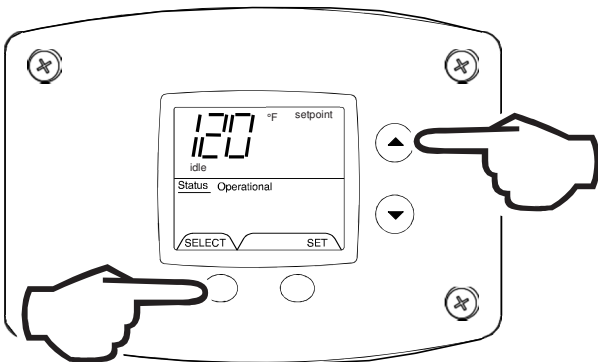

Fig. 71
7. 10 seconds after the last button press, the Water Heater Display will revert back to the current error code display. To exit Service Mode, either wait 30 seconds or press Temperature Up button and Select Button for 3 seconds (Fig. 71).